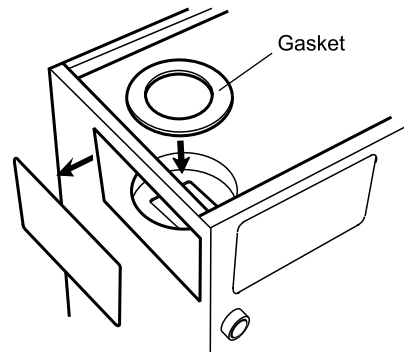

Fig. 2
8. **All models except Vortex** – Place the circular white fibre gasket into the boiler flue spigot (Fig. 2).